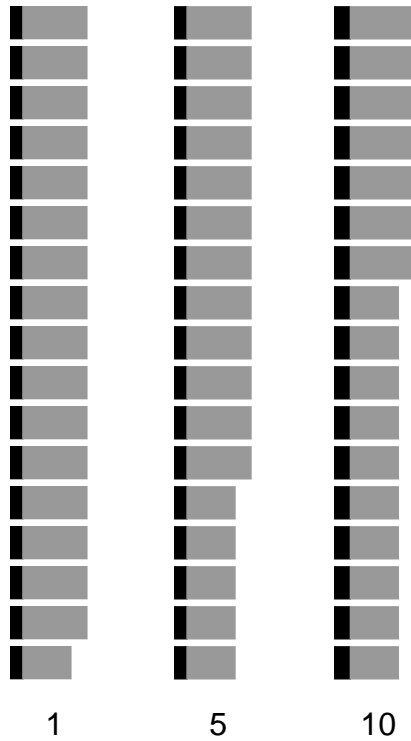

Figure 3.2 Indents show the increment value, expressed in exposure units.
- The increment, or difference in the exposure setting from one band to the next, is indicated by indents at the right end of the test page. See Figure 3.2.